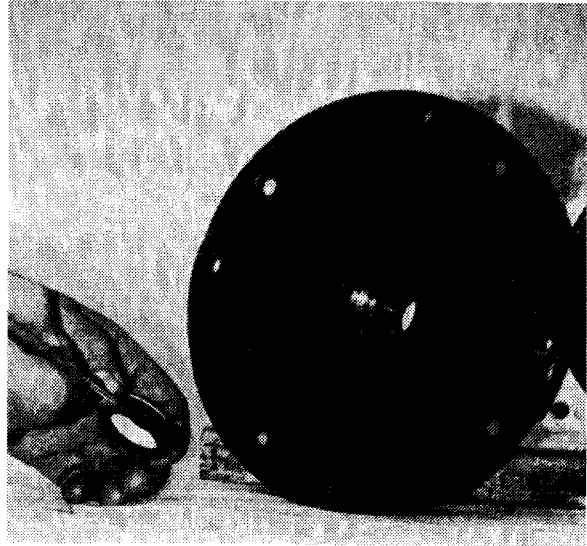

FIG. 20
11. Use care to avoid touching sealing faces with hands, use protective cardboard circle provided with seal, while handling. Use an artists brush to coat bottom outside portion of rubber retaining boot with conservative application of STP or equivalent lubrication to ease installation. See Figure 20.